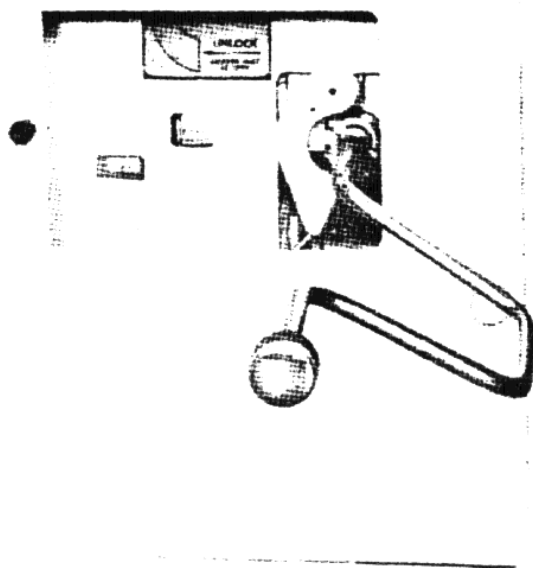

Fig. 4 — Method of Racking Circuit Breaker
Engage racking crank (4, Fig. 4) and push racking unlocking lever (3) to left, then rotate racking crank counterclockwise only until resistance to motion is felt (DO NOT FORCE). If closing springs were left in the "charged" condition, they will automatically discharge.
To rack circuit breaker to "TEST" position, push racking unlocking lever (3, Fig. 4) to left, rotate racking crank approximately 1/4 turn clockwise, then release unlocking lever. Continue cranking until racking mechanism automatically stops at "TEST" position.
When racking circuit breaker to "CONNECTED" position, close compartment door (1, Fig. 4) and insert racking crank (4, Fig. 4) through sliding panel (2, Fig. 4).
CIRCUIT BREAKER REMOVAL (See Fig. 4)